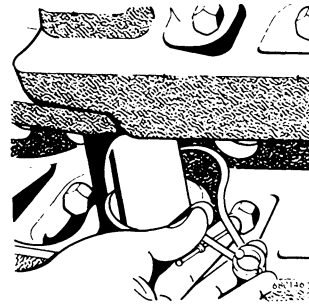

Figure 9
1. Install new piston seal and retaining washer onto rod and piston assembly. See Figure 9 for proper assembly.